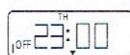

Figure 8
6.4 Press the "TIMER" key once again; wait until "1 OFF" (indicating the first time closing time) appear in the lower left of LCD, and then press "WEEK" key, "HOUR" key, and "MINUTE" key and input the required closing time, as shown in Figure 8.